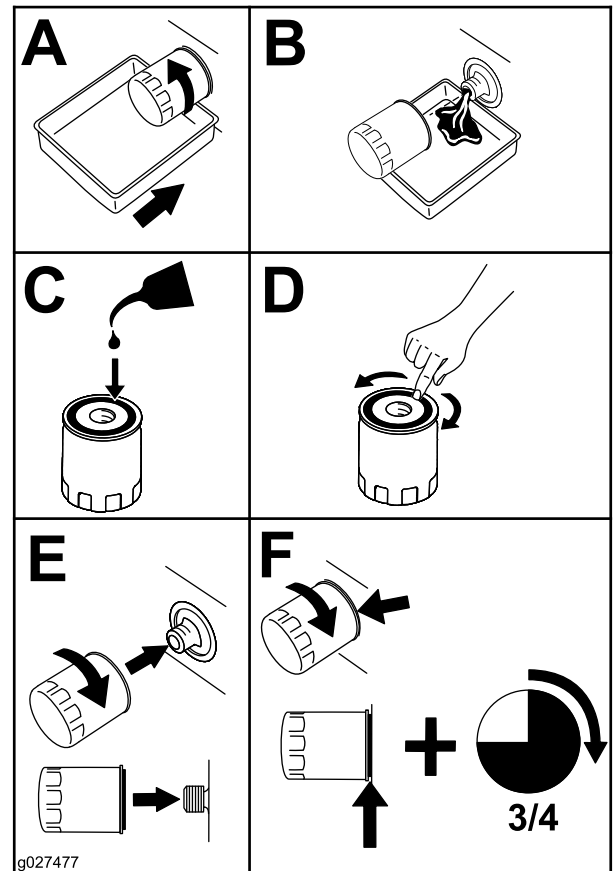

Figure 52
- Change the engine-oil filter (Figure 52).